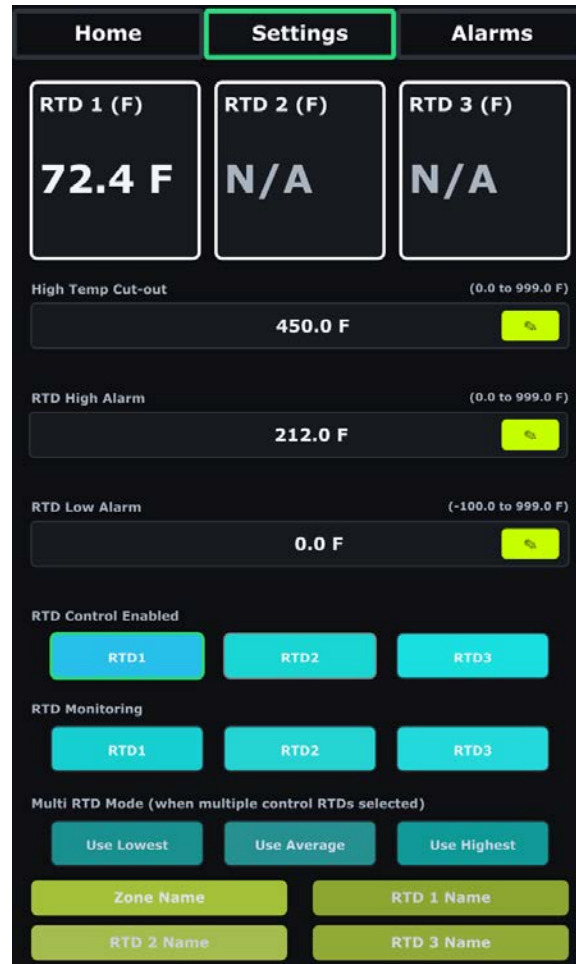

Figure 5.2.2 - RTD Sensor Screen
Each RTD sensor can be assigned a descriptive name displayed on the Dashboard Home screen and in alarm logs. Navigate to **Control Settings** → **RTD Sensors**, tap **RENAME** (see figure 5.2.2) on the desired sensor card, enter the label, and confirm.
To rename the zone, navigate to **Control Settings** → **RTD Sensors**, tap **RENAME** (see figure 5.2.2), enter up to 16 characters using the on-screen keyboard, and confirm. The new label takes effect immediately, propagates to the header of the Home screen,
- **RTD Threshold Alarms** monitor individual sensor health across multi-RTD setups. The RTD Threshold Alarms setpoints are configured on the RTD setting screen (Under **Control Settings** → **RTD Settings**, see figure 5.2.2)